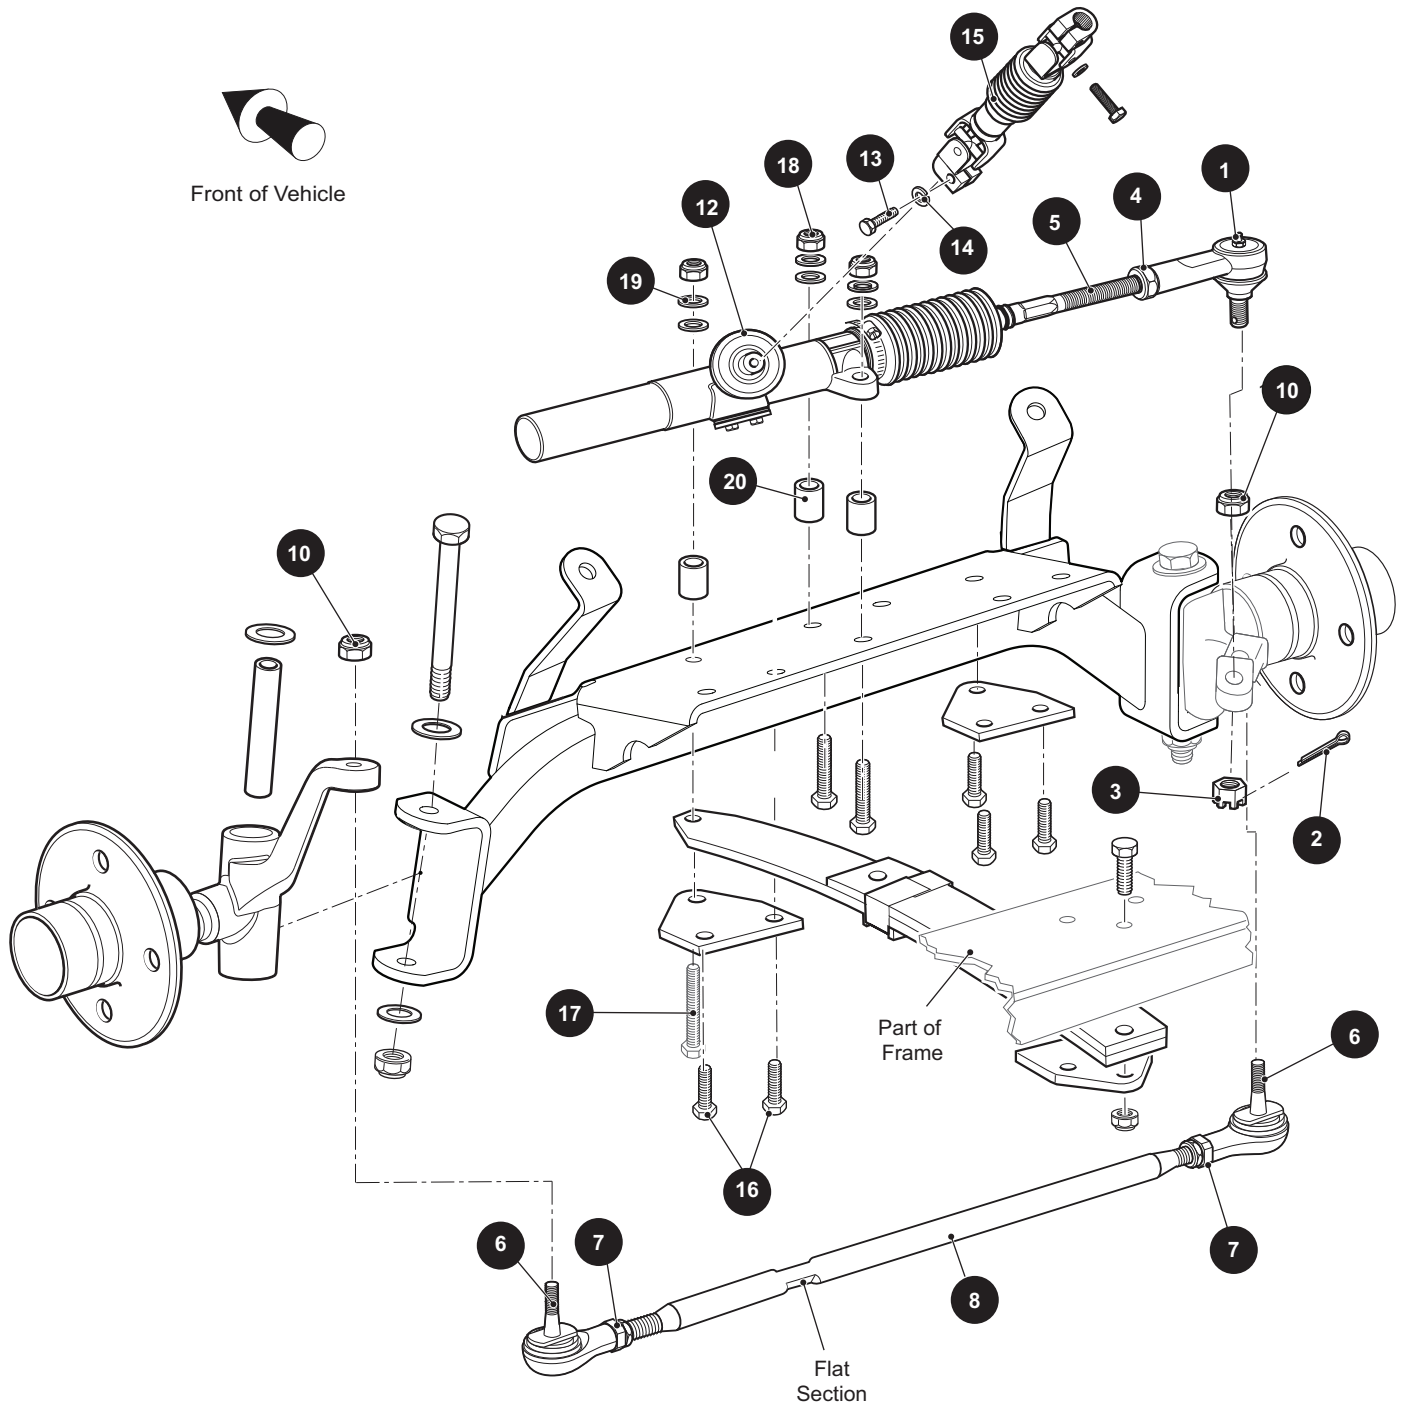

Fig. 11 Steering Components
Grasp the tie rod (8) at ball joints (6) and check for any vertical motion which would indicate a worn condition and require replacement (See Fig. 11).
NOTICE: To hold threaded tube while loosening jam nut, use a wrench on the center, flat section of tube (See Fig. 11).